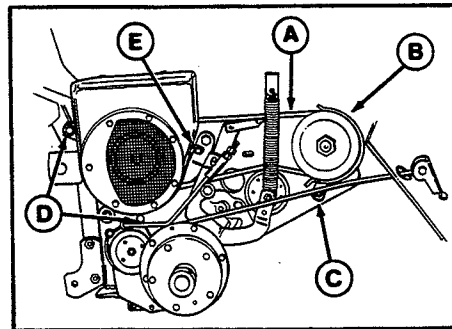

Figure 17. Drive Belt Replacement - Hydrostatic
- Remove the capscrew (C, figure 17) and remove the belt guard assembly (B).
- Remove the two capscrews (D) and the thread forming screw (E) to remove the fan guard assembly.